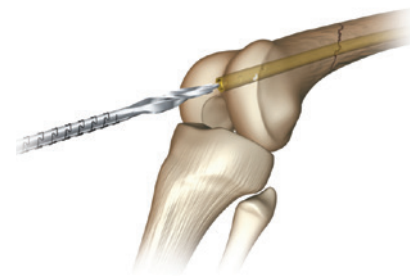

Figure 34
4. Advance the 12.5mm Entry Reamer over the pin and into the end of the nail to remove any bony ingrowth (Figure 34).